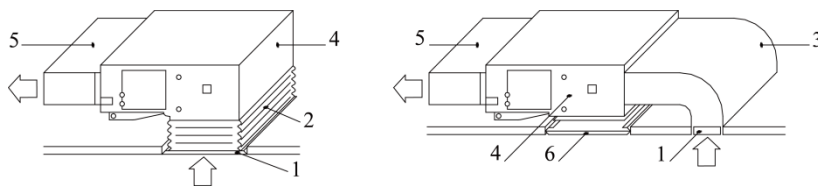

Fig.12
- e. The installation method can be chose with considering the conditions of the building and maintenance etc., as shown in Fig.12.